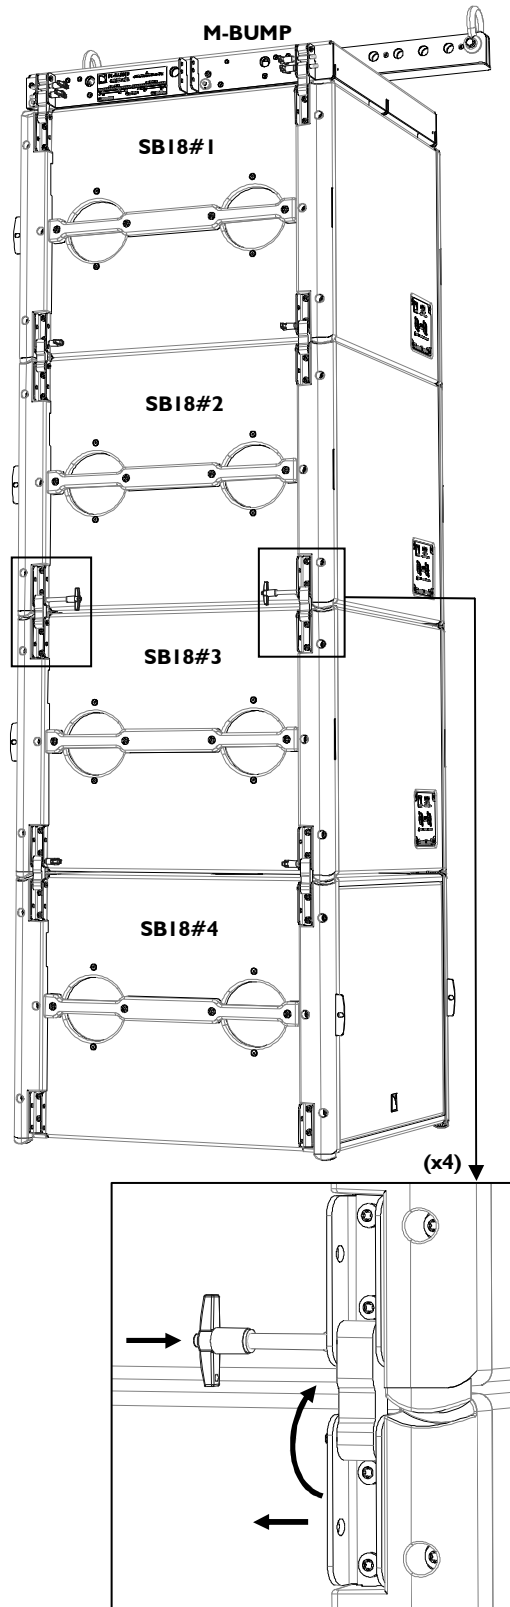

Figure 30: Adding a second 2-SB18 stack to the array (cardioid configuration example)
Orient all SB18 composing the array towards the audience to obtain an **omnidirectional** acoustic pattern or turn one SB18 every four from front to rear to obtain a **cardioid** acoustic pattern (refer to the **SB18 User manual** [3.4]). As an example, Figure 30 shows a cardioid SB18 array.
9. Attach SB18#3 to SB18#2 as follows (see also Figure 30):